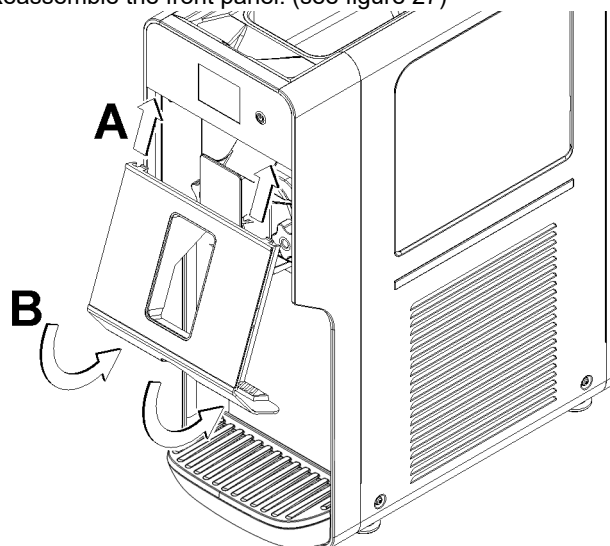

figure 27
**5** Reassemble the front panel. (see figure 27)